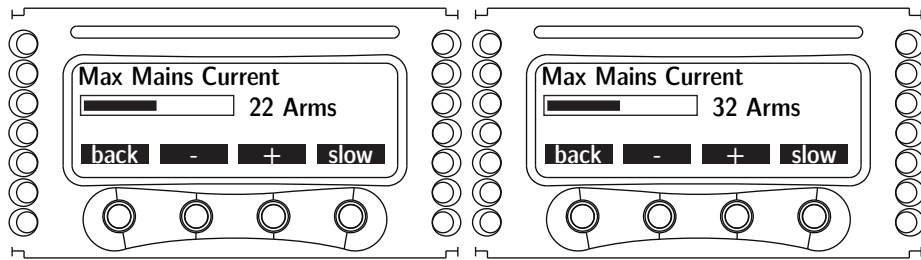

Figure 17: Fast parameter increase
- in fast mode: a single + button press will increase the Max mains current from 22 A to 32 A (figure 17)